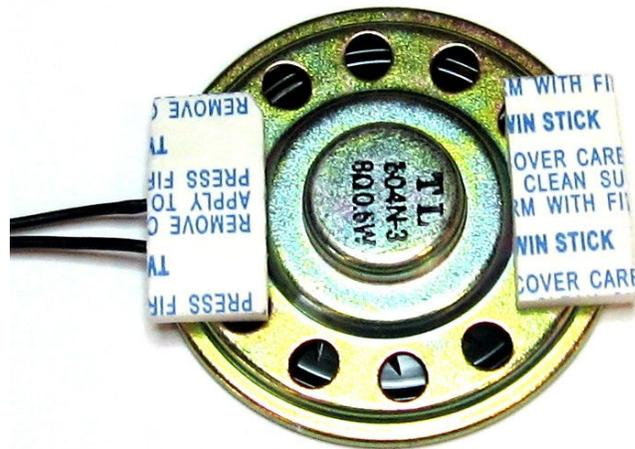

Figure 9 – Speaker prepared for installation
1. Prepare two pieces of double stick tape 0.4” by 1.0” and apply to the speaker as shown in Figure 9. Note that one piece of tape is centered directly over the wire terminals.